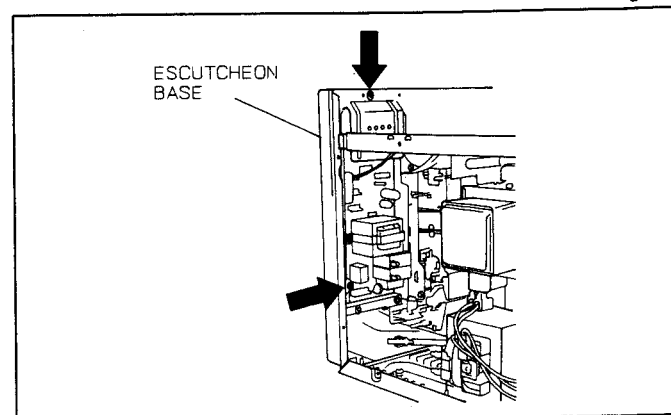

Fig. 18A
- Remove 2 screws holding the escutcheon base. (**Fig. 18A**)